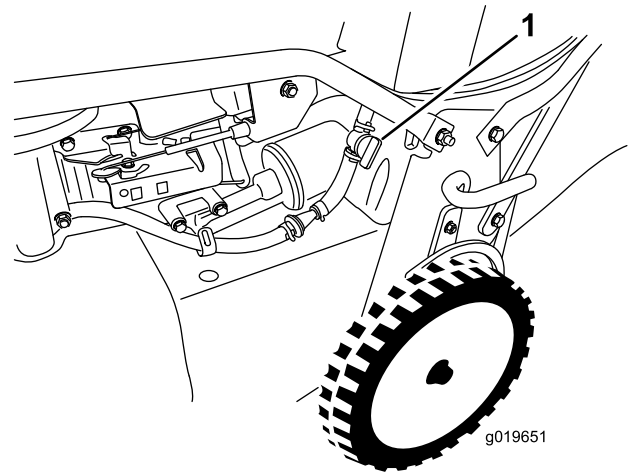

Figure 18
2. Open the fuel shut-off valve (Figure 18).